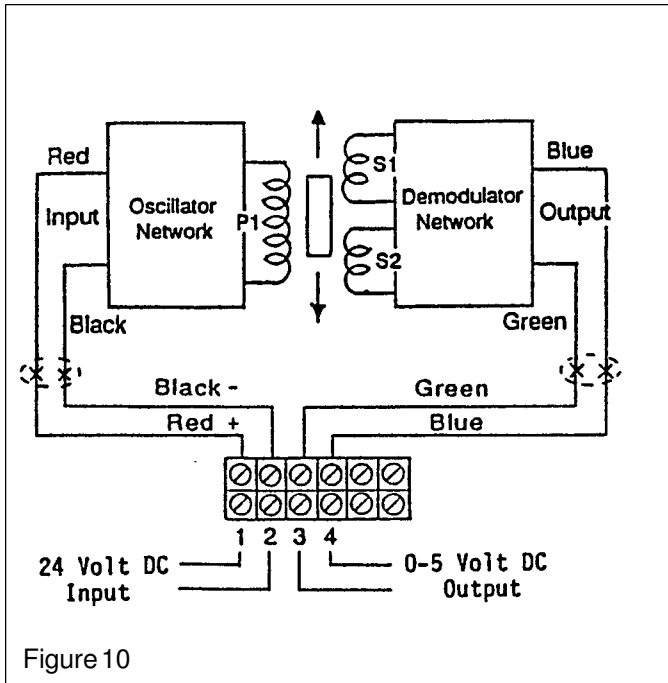

Figure 10
3. Observing correct polarity, connect the positive (+) input lead to Pin A and the negative (-) input lead to Pin B. (See Figure 10.)
4. Connect the positive (+) output lead to Pin D and the negative (-) output lead to Pin C. (See Figure 10.)
7. Connect a voltmeter to Pins C and D (See Figure 10.)